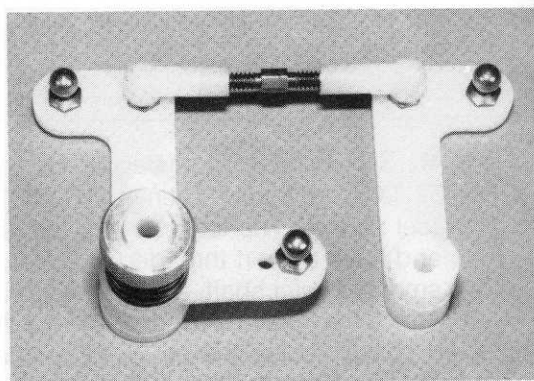

Fig. 27
□ **Fig. 27** Take the short turnbuckle and snap it on the two ball ends, as shown, using pliers.